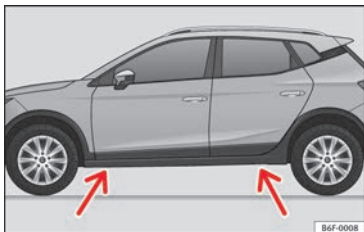

Fig. 82 Jack position points.
• Find the support point on the strut (sunken area) closest to the wheel to be changed » » » Fig. 82.